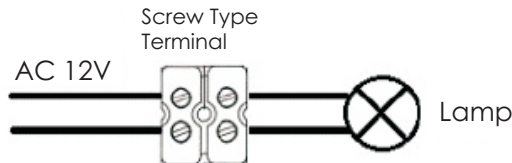

Figure 2-1
- 8) Terminal blocks must meet the IEC60988-2-1 standard having the rated connecting capacity of 4,0mm² use of screw-type terminal at least 25A rated current , mounted on junction boxes inside. See Figure2-1.